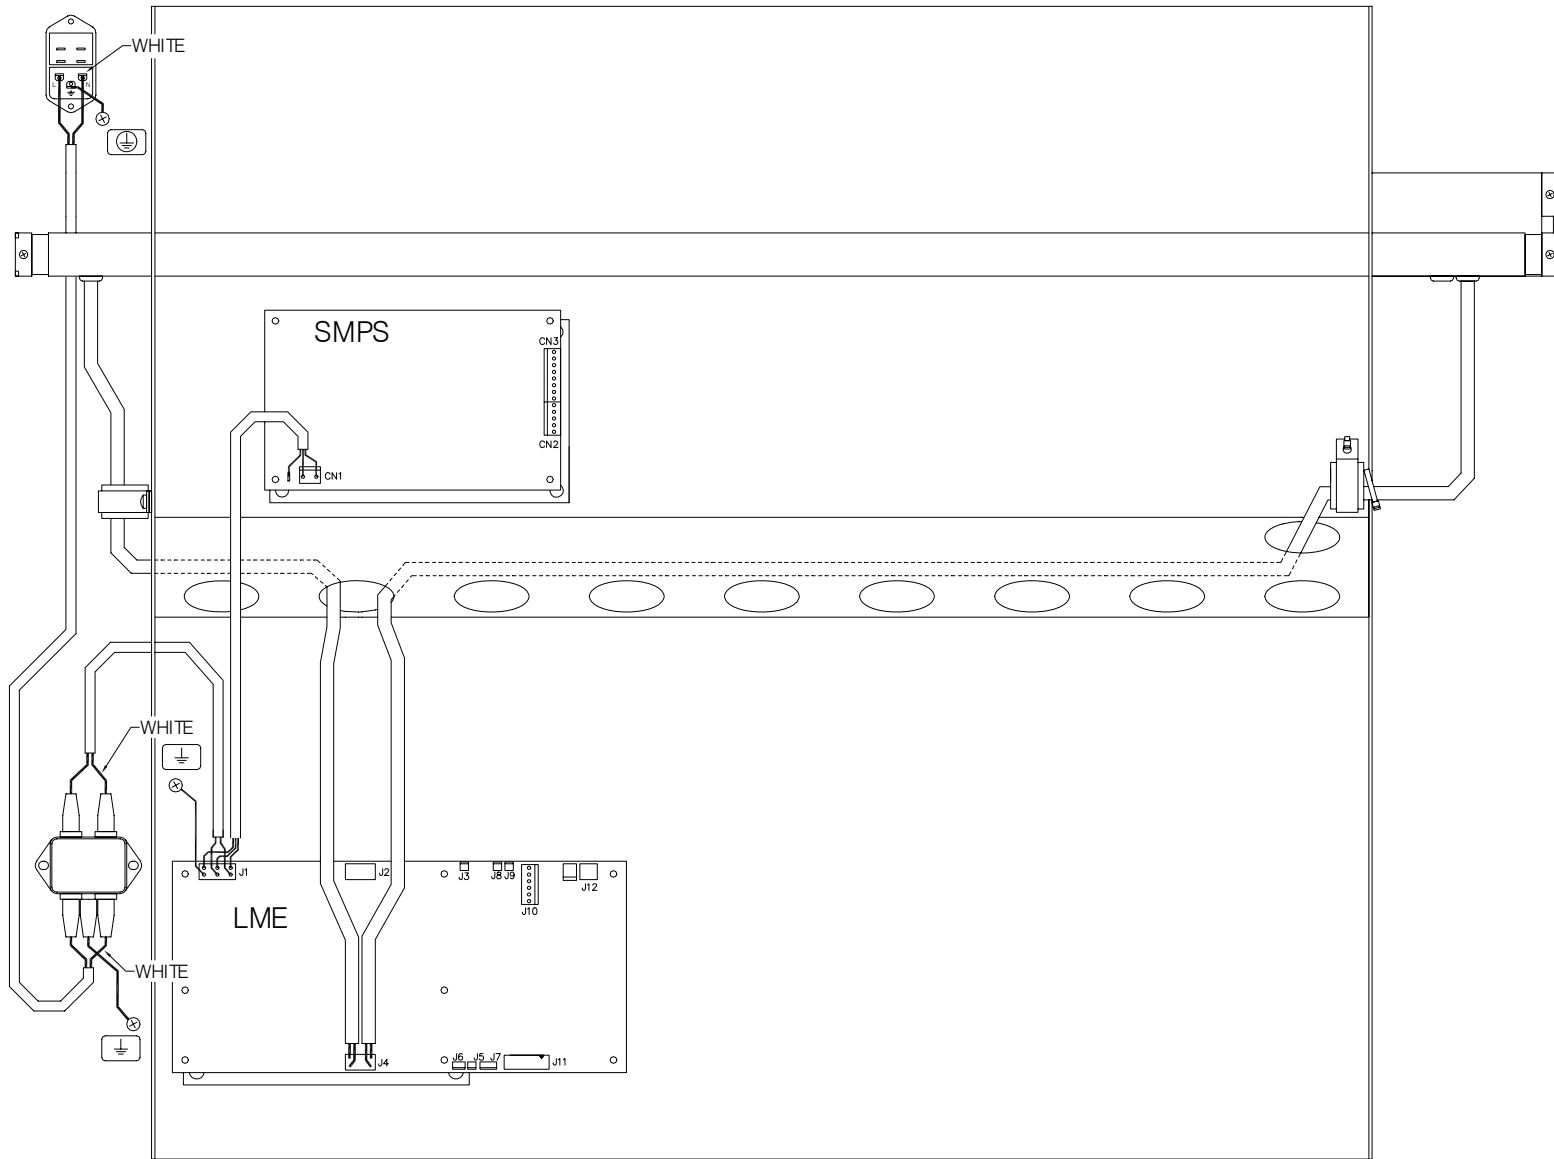

Fig. 11-1 COUGAR 25 Primary Wiring
- Fig. 11-1 COUGAR 25 Primary Wiring, page 179